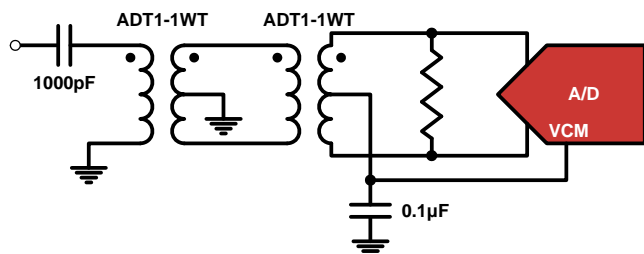

FIGURE 28. TRANSFORMER INPUT FOR GENERAL PURPOSE APPLICATIONS
Best performance is obtained when the analog inputs are driven differentially. The common-mode output voltage, VCM, should be used to properly bias the inputs, as shown in Figures 28 through 30. An RF transformer gives the best noise and distortion performance for wideband and high intermediate frequency (IF) inputs. Two different transformer input schemes are shown in Figures 28 and 29.